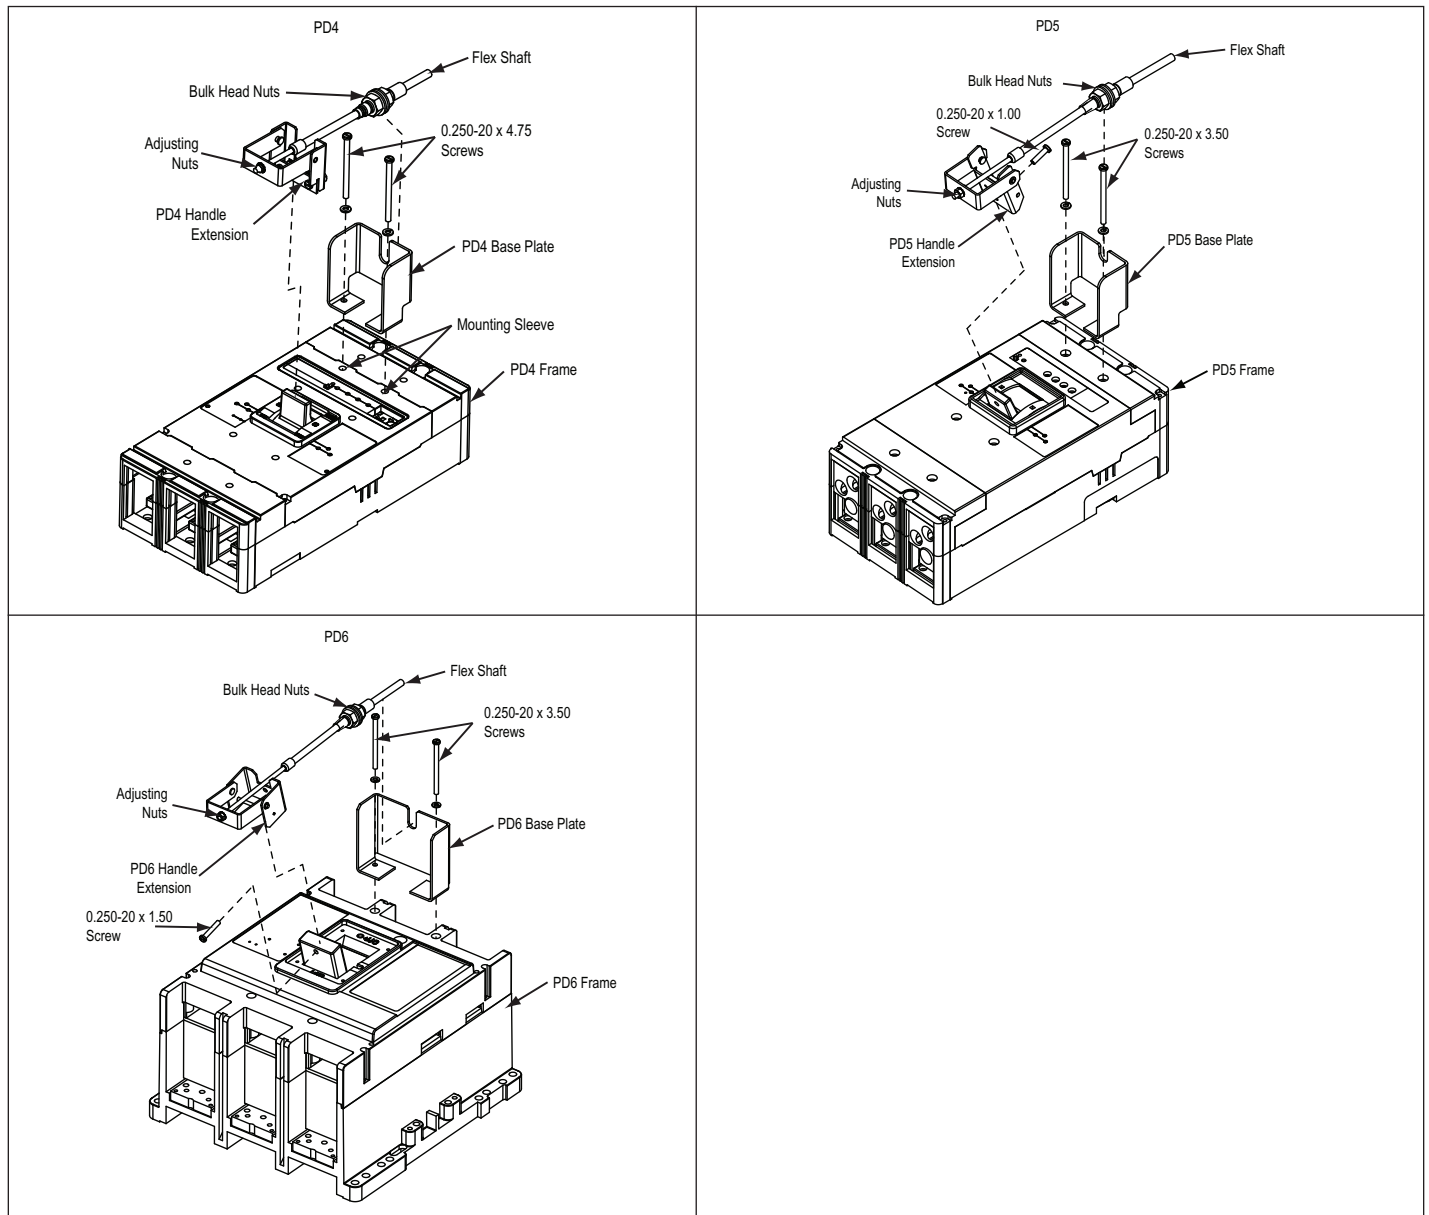
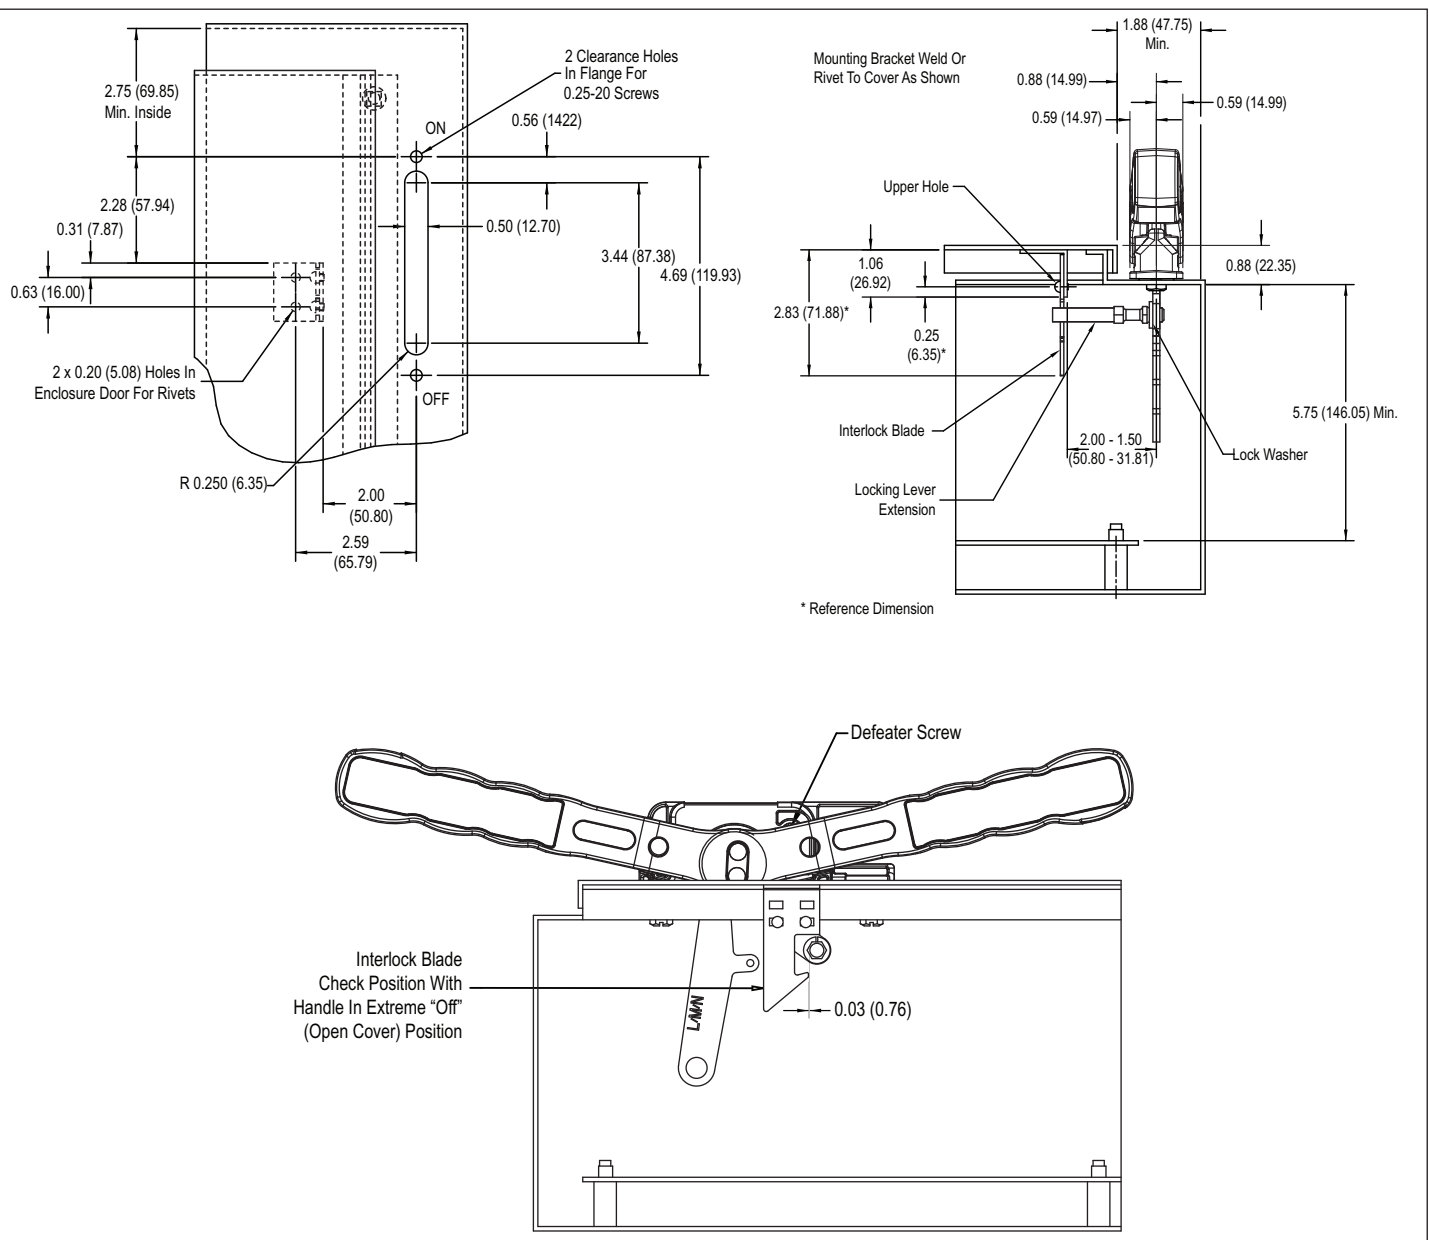

Figure 2. PD4, PD5 and PD6 Mechanism Assemblies.
Figure 3. Flange Drilling Plans for Handle and Interlock Blade Mounting Dimensions.
PD4 : Attach the load end of the breaker to the enclosure using hardware from the hardware kit. Attach the base plate to the load end cover of the breaker. The load end cover screws are replaced with the two 0.164-32 x 2.250" screws, lock washers, and mounting sleeves enclosed (see Figure 2 for illustration).
PD5: Attach the load end of the breaker to the enclosure using hardware from the hardware kit. Attach the base plate to the circuit breaker using the 0.250-20 x 3.500" screws and lock washers enclosed in the parts kit at the load end of the breaker after removing the two load cover screws located between the trip unit and the two load end mounting holes (see Figure 2 for illustration).
PD6: Attach the load end of the breaker to the enclosure using the hardware from the hardware kit. Attach the base plate to the circuit breaker using the 0.250-20 x 3.750" screws and lock washers enclosed in the parts kit at the load end of the breaker (see Figure 2 for illustration).
handle extension assembly onto the breaker handle and secure as shown on Figure 2.
8. Actuate the outer handle positions ("ON", "OFF", and "RESET"). If minor adjustments are necessary, refer to the following adjustment checklist and Figure 2. Install the appropriate door hardware (supplied); as referenced on Figure 3.